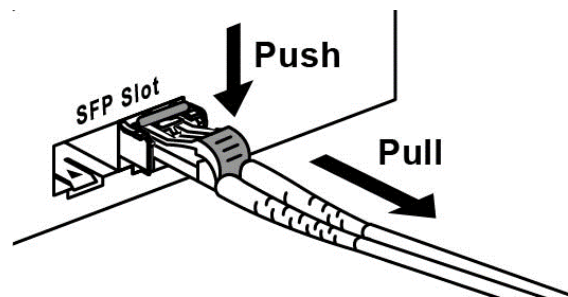

Figure 2.8: Remove LC Connector
Step 1. Press the upper side of the LC connector from the transceiver and pull it out to release as shown below in Figure 2.8